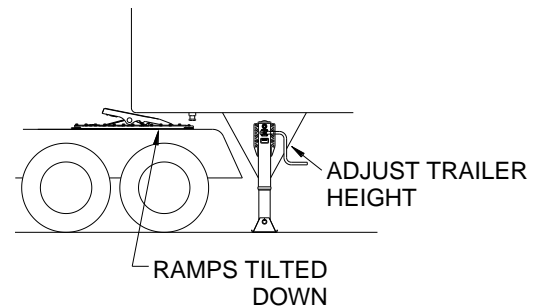

FIGURE 1
- a. The ramps must be tilted down (see figure 1).
IMPORTANT! The trailer should contact the fifth wheel at the pivot (see figure 1). When coupling, fifth wheel must slide freely under the trailer. Do not lift the trailer with the fifth wheel, this will stretch the low lube plates.